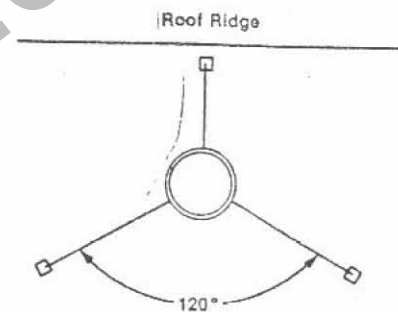

Figure 37
**Note:** If chimney extends more than 6 feet above roof line, guy wires are also recommended. Use three (3) guy wires, attach to locking band assembly, extend and secure to roof in a triangular pattern (Figure 37). Guy wires not supplied by Superior.